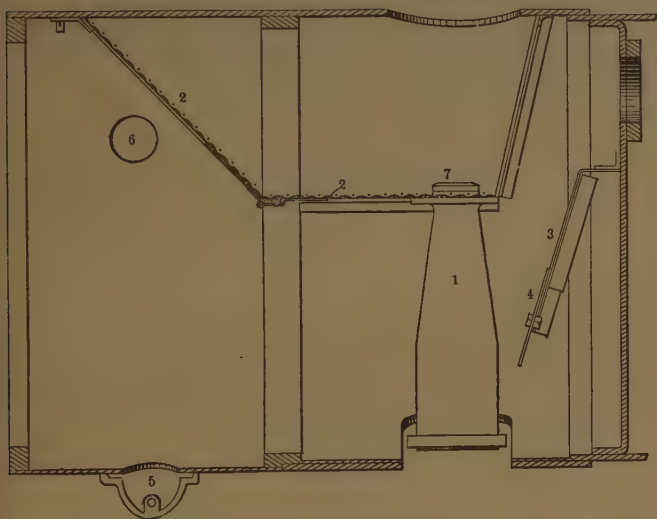

Fig. 34. Smoke-box and Fittings, (Lengthwise View.)
A. Of cast iron, having in its centre a large outward-opening door which permits inspection and repair of parts inside the smoke-box. (Figure 34.)